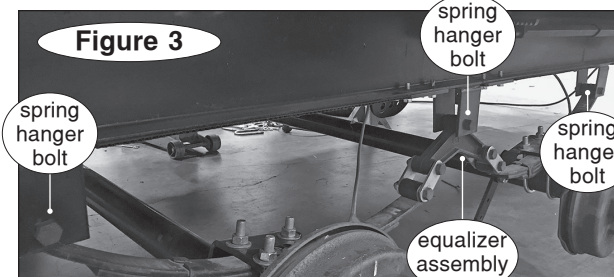

Figure 3
5. How to remove the spring hanger bolts (Figure 3):